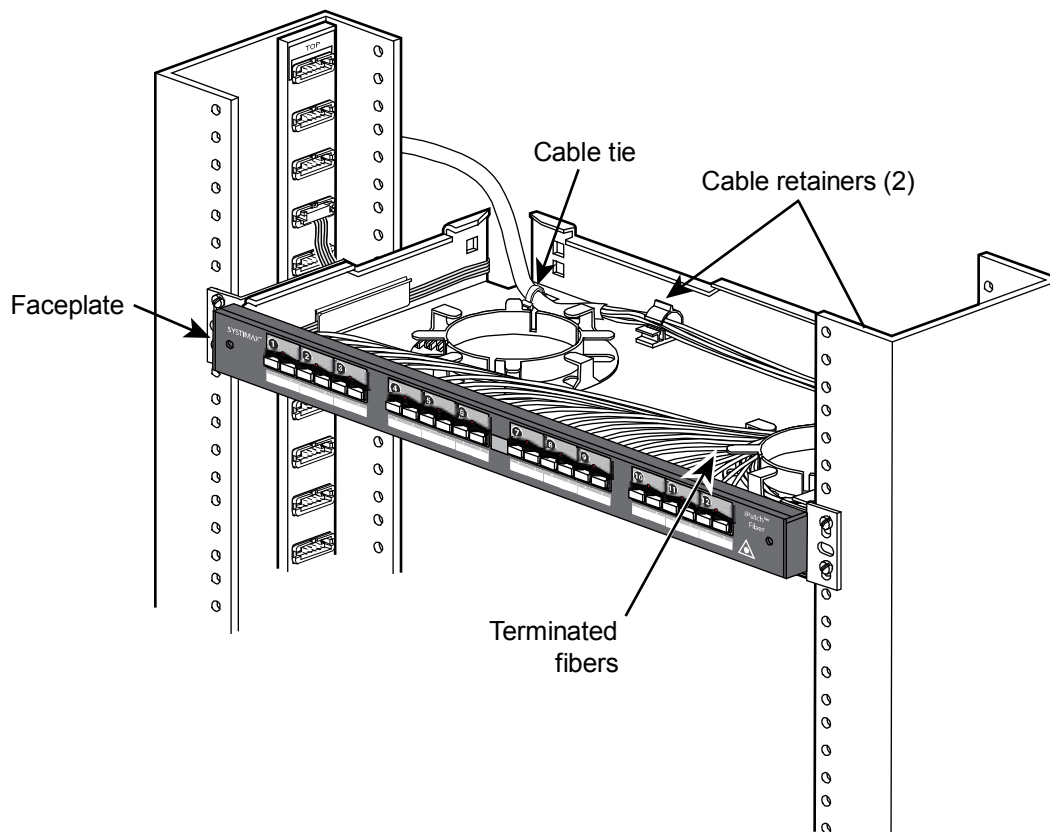

Figure 8 Routing the Terminated Fibers
3. Affix the adhesive-backed wire retainers to the shelf approximately in the position shown in Figure 8.
4. Route the buffered fibers through the wire retainers and around the storage drums to the adapters on the back of the faceplate (Figure 8).